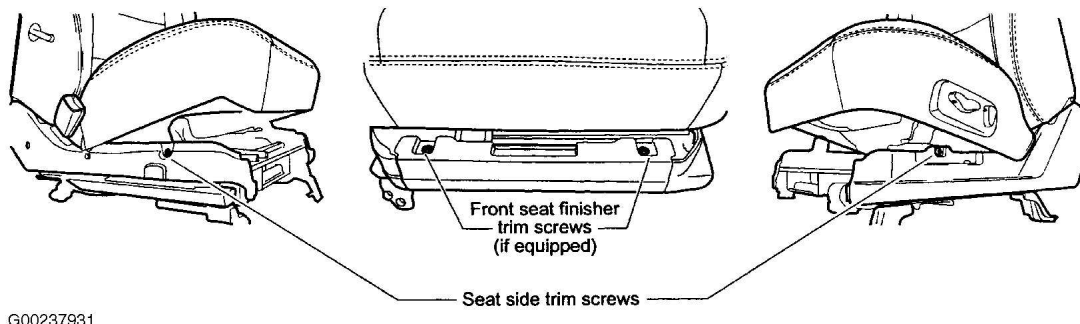

Fig. 5: Removing Finisher Screws & Front Finisher
- Remove the top screw only from the RH & LH side finishers (see **Fig. 5**).
- If equipped, remove both screws and finisher from the front edge of the seat (see **Fig. 5**).
13. Re-install screws to attach the side finishers (refer to **Fig. 5**, if needed).